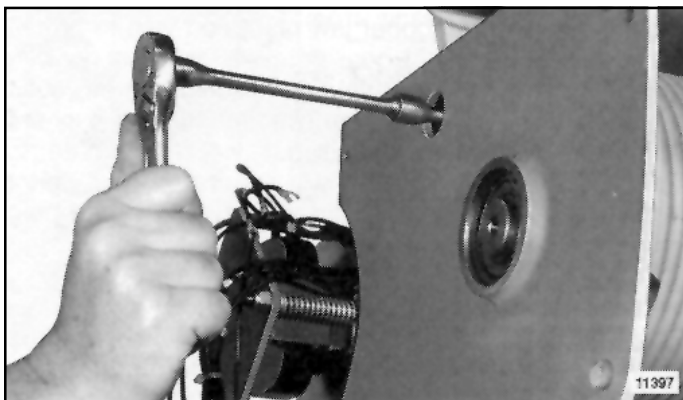

Figure 5-11. Removing Bolt Securing Gearcase to Frame
b. Remove four hex socket head bolts securing gearcase to cover. Three bolts are accessible from inside frame (Figure 2-2, Section II) and the fourth is accessible from electrical end of frame through special access hole using a socket hex key wrench with an extension (Figure 5-11). With bolts removed, pry assembled gearcase and motor from frame. Exercise caution so that gearcase and motor assembly does not fall as it comes free of frame. This disassembly operation is not recommended with hoist suspended. Drum will remain in frame and can be lifted from drum shaft. To remove shaft, remove internal retaining ring from bearing bore in frame.